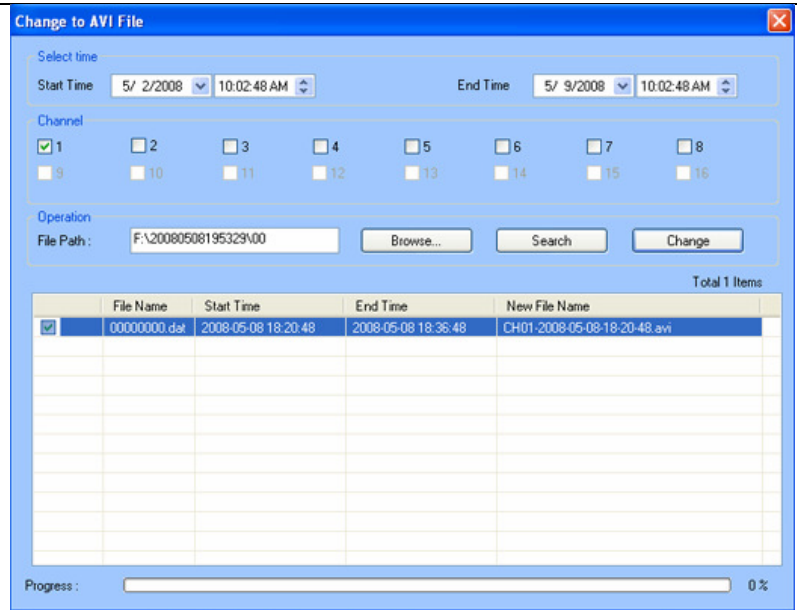

Fig 3.25 AVI Converter
STEP6 Click Browse to choose the folder which contains the video backup. Set the start/end time, select the channels, and then Click search button. It will show backup files in the file display area as shown in Fig 3.25 AVI Converter.